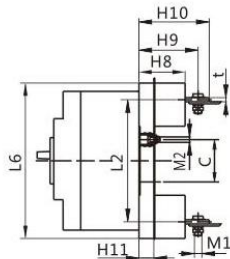

Figure 7 Plug-in back-panel wiring (3P/4P)
(4) Dimensions of plug-in type rear connection see Figure 7